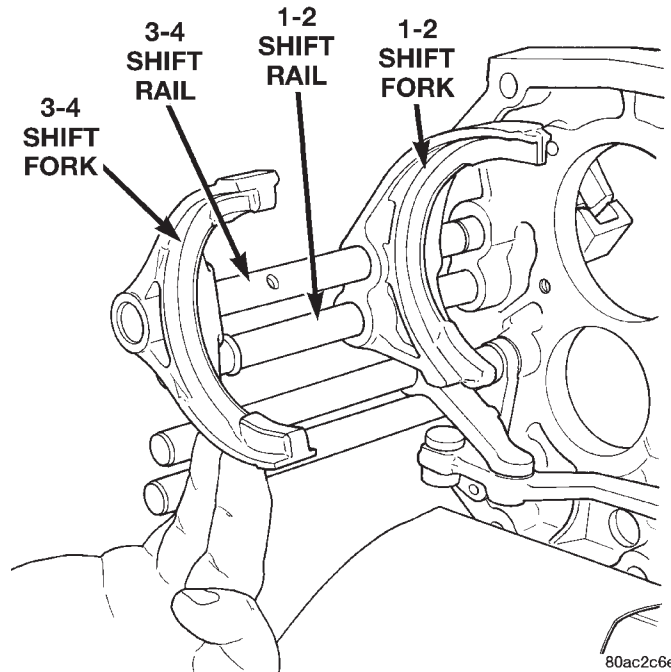

Fig. 64 Remove 3-4 Shift Fork
(18) Remove the 3-4 shift fork from the 3-4 shift rail (Fig. 64).